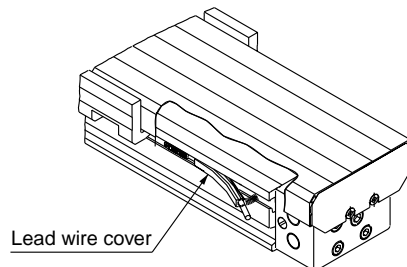

Figure 3. Installation of lead wire cover
3. First place the lead wires into the lead wire cover. Then, install a lead wire cover onto a cylinder body. (Refer to Figure 3.)